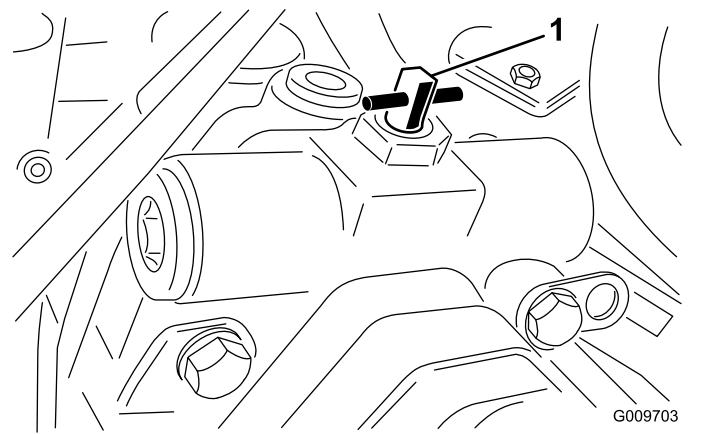

Figure 65
3. Rotate the bypass valve 90° (1/4 turn) in either direction to open it and allow fluid to bypass internally (Figure 65).
2. Rotate the bypass valve 90° (1/4 turn) in either direction to open it and allow fluid to bypass internally (Figure 65).